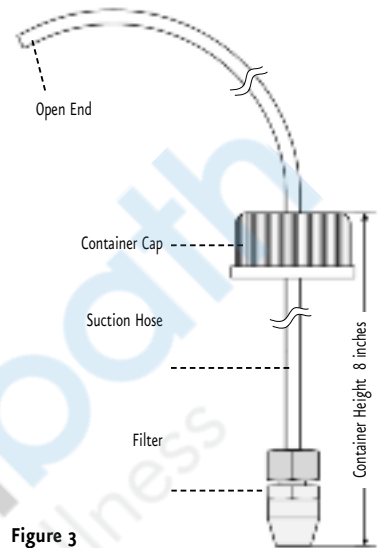

Figure 3
3. Insert the suction hose with the open end from below through the hole in the container cap (see Fig. 3).
1. Unscrew the suction end nut from the pump head and remove shipping hose (see Fig. 3) (discard shipping hose, keep pressure end nut).
3. Unscrew the pressure end nut from the pump head and remove the pressure hose from the pressure valve (see Fig.3).